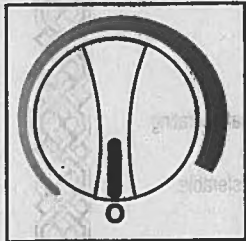

Fig. 14
- To turn off the freezer (no cooling) rotate the control knob to the "0" (off) position. See Fig. 14